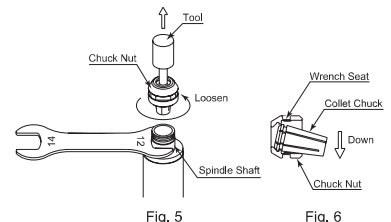

Fig. 5
- Remove the tool according to the section "5. CHANGING THE TOOL" procedure above and remove chuck nut assembly (Fig. 5).